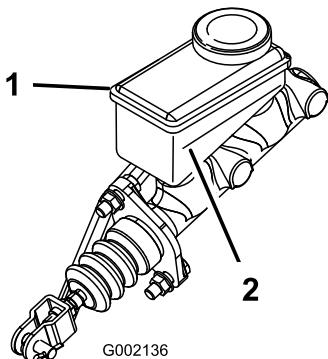

Figure 62
5. Look at the outline of the fluid level at the side of the reservoir (Figure 62).
- B. Add DOT 3 brake fluid to the reservoir until the fluid level is above the Minimum line (Figure 62).